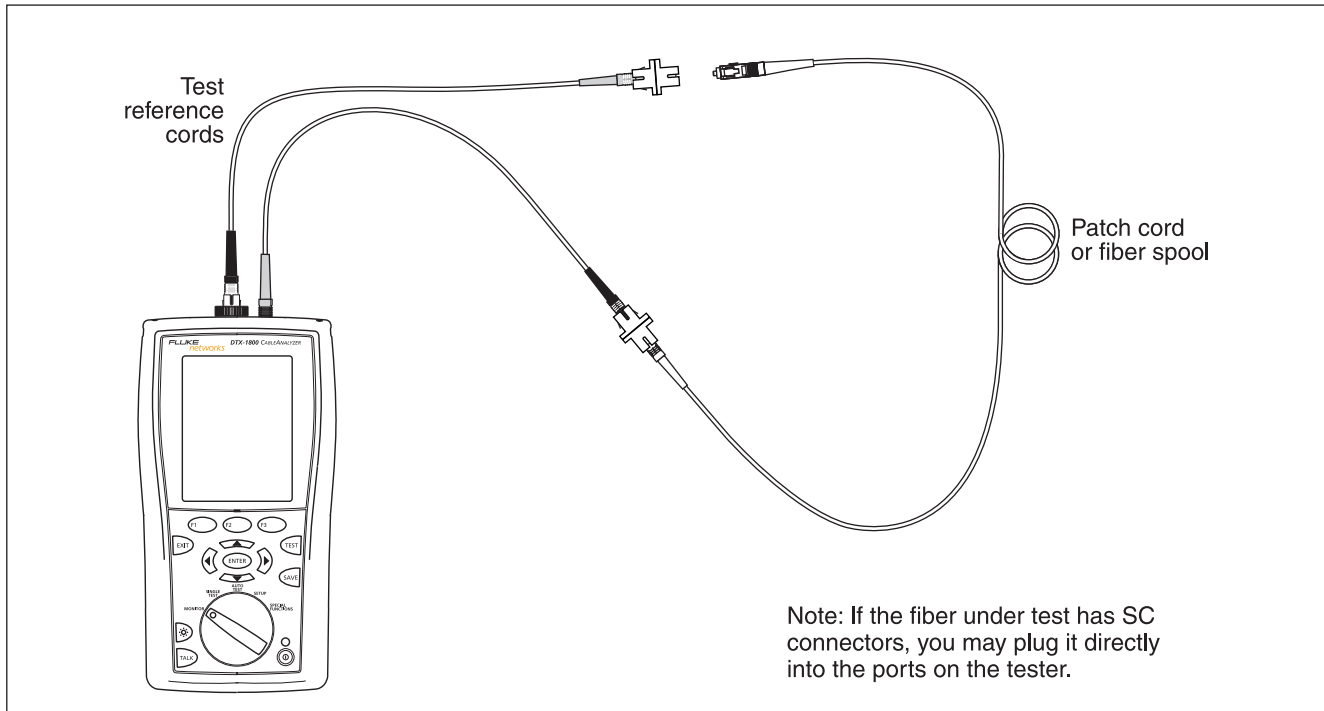

Figure 8-28. Using FindFiber in Loopback Mode
- 3 Clean all connectors; then connect the tester's OUTPUT fiber to one end of the fiber path, as shown in Figure 8-28.